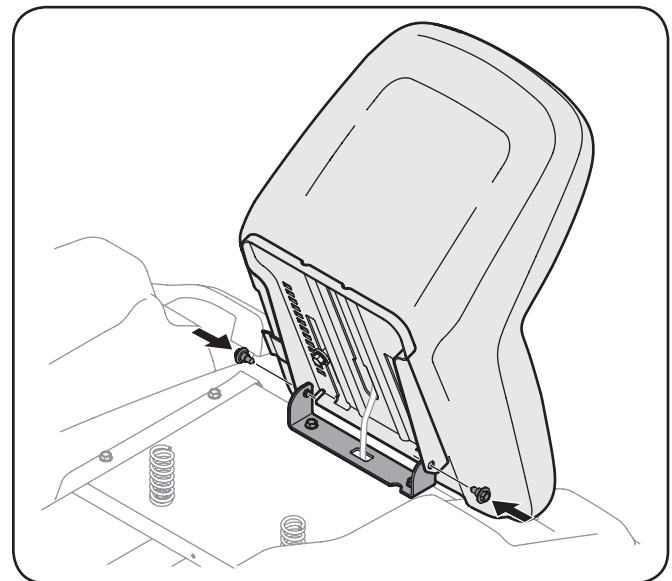

Figure 3-5
3. Rotate the seat into position and secure the seat into place with the previously removed shoulder screws. Be careful not to crimp or damage the wire harness while installing the seat. See Figure 3-5.